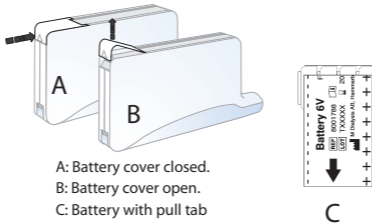

Fig. 2 A: Battery cover closed.
1. Open the battery cover by pressing with your thumb in the direction of the arrow (see Fig. 2 A,B).